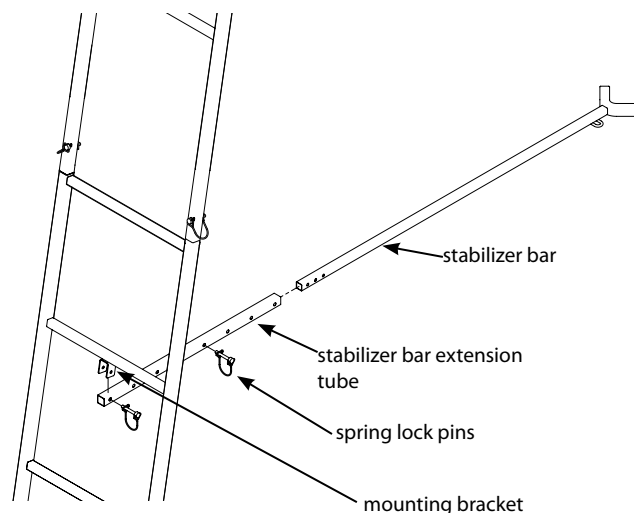

Figure 9
14. a. Attach the stabilizer bar extension tube (1ML23) to the second ladder section mounting bracket using (1) provided spring lock pin. **SEE FIGURE 9.**
b. Slide the stabilizer bar (L17) into the extension tube and attach the two pieces together using (1) provided spring lock pin. Spring lock pin must go through both the extension tube and stabilizer bar at appropriate hole to achieve desired distance from tree. Adjustment in length may be needed when ladder is uprighted later in instructions. **SEE FIGURE 9.**